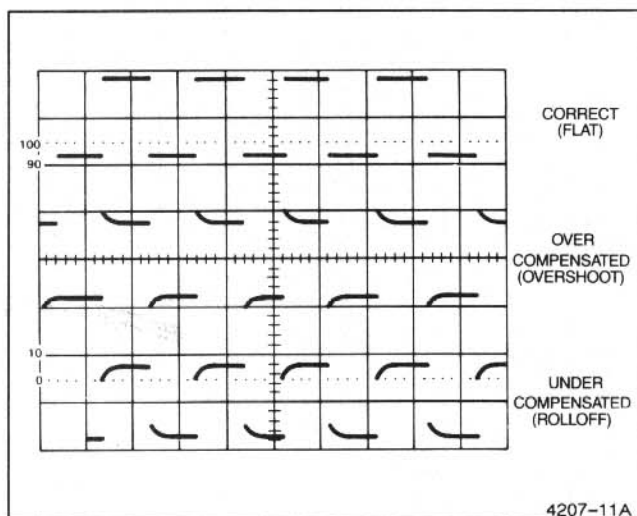
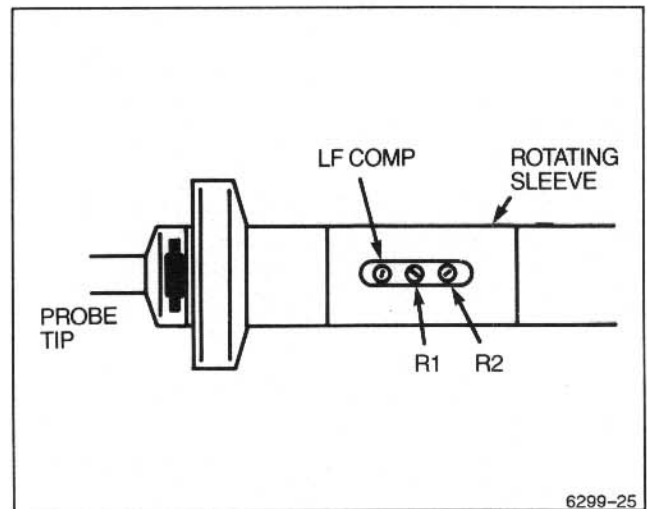

Figure 2-5. Probe compensation.
Figure 2-6. Probe compensation locations.
5. Check the waveform display for overshoot and rounding (see Figure 2-5); if necessary adjust the probe's compensation. Rotate the sleeve on the probe head to expose the adjustments (see Figure 2-6). Use a low-reactance alignment tool to adjust the LF comp capacitor for a square front corner on the waveform.